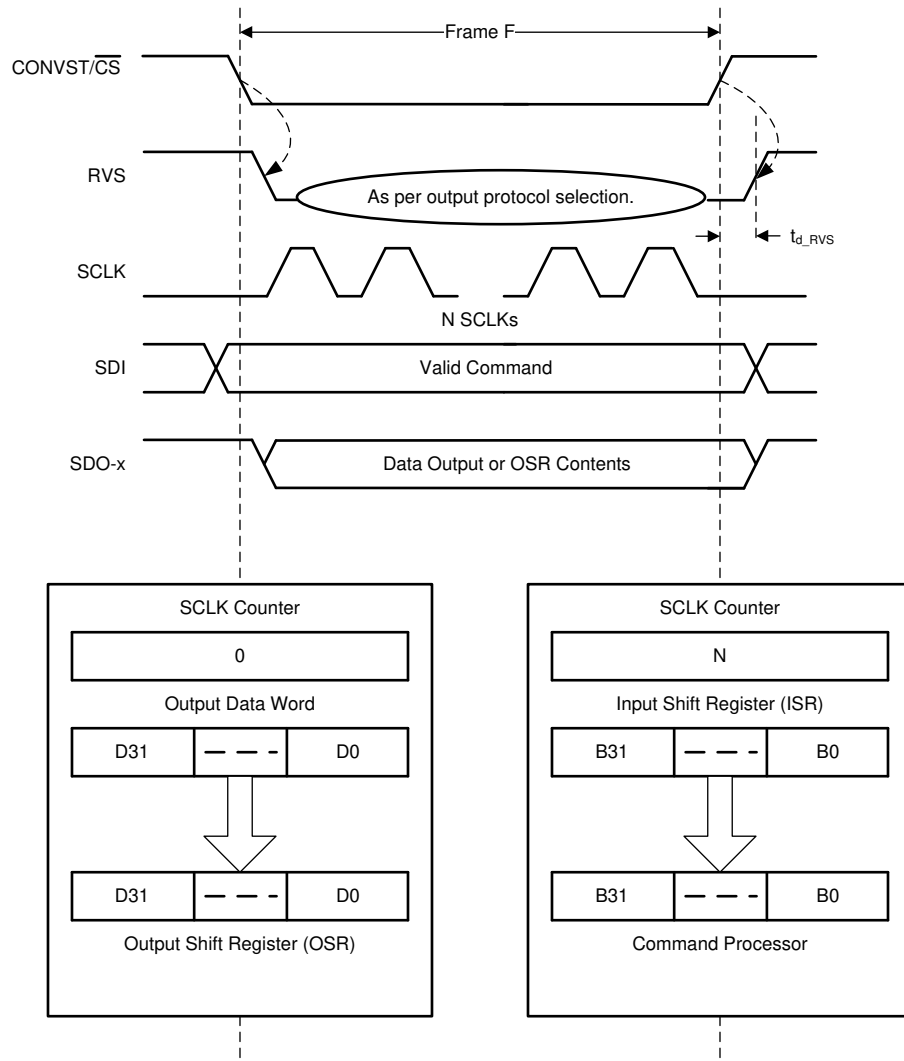

图 7-25. Data Transfer Frame
A data transfer frame between the device and the host controller begins at the falling edge of the CONVST/ $\overline{\text{CS}}$ pin and ends when the device starts conversion at the subsequent rising edge. The host controller can initiate a data transfer frame by bringing the CONVST/ $\overline{\text{CS}}$ signal low (as shown in 图 7-25) after the end of the CONV phase, as described in the CONV State section.
- The device takes control of the data bus. As illustrated in Figure 7-25, the contents of the output data word are loaded into the 32-bit output shift register (OSR).
- As illustrated in Figure 7-25, the contents of the input shift register are transferred to the command processor for decoding and further action.